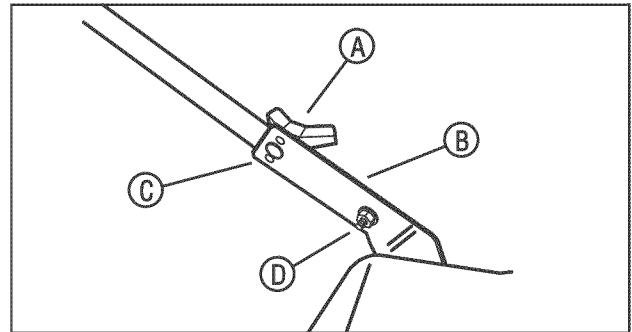

Figure 1: Unfolding the lower handle
3. Remove the wingnuts (**A, Figure 1**), washers (not shown), and bolts from the right and left handle brackets (**B**).